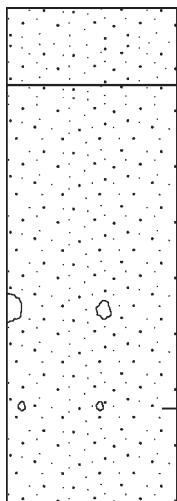

FIGURE 27.13 Effect of spot too close to the edge.
3. Spot too close to the edge. Here you get inaccurate R_f values, bleeding, and other problems. The spots are not surrounded as much by adsorbent and solvent, so unequal forces are at work here (Fig. 27.13).